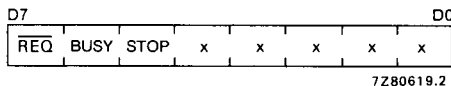

Fig. 6 Status read.
Three status bits can be read out at any time without a preceding byte (00). This is shown in Fig. 6.